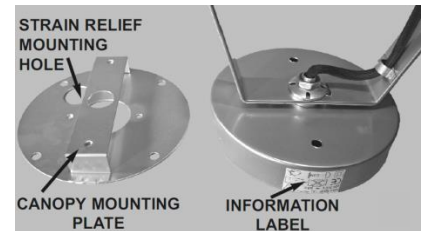

Figure 7. -5EU Canopy mounting plate and label
3	Mount Canopy Mounting Plate (Fig. 7) to ceiling with screws (supplied by others). Please check code requirements for fixture mounting and check Distance-From-Wall-Label on side of -5EU Canopy. Use outer bolt circle holes (4) to mount to ceiling. Use the two (2) holes near the large center hole to mount to Besa box.